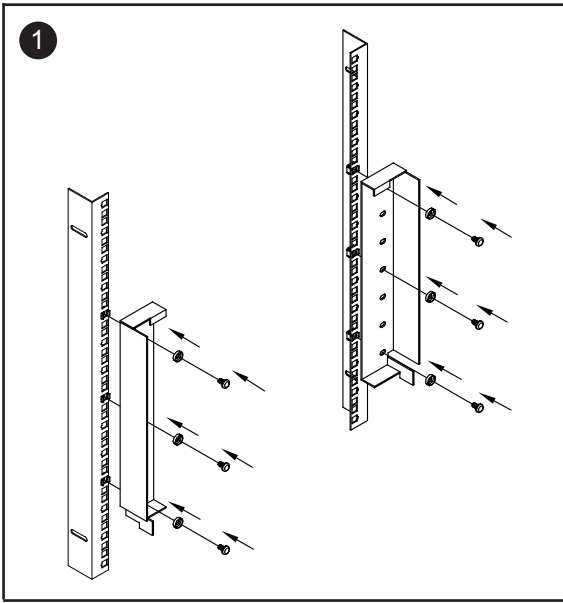

Figure 3.
■ Install each screws shown in Figure 3.